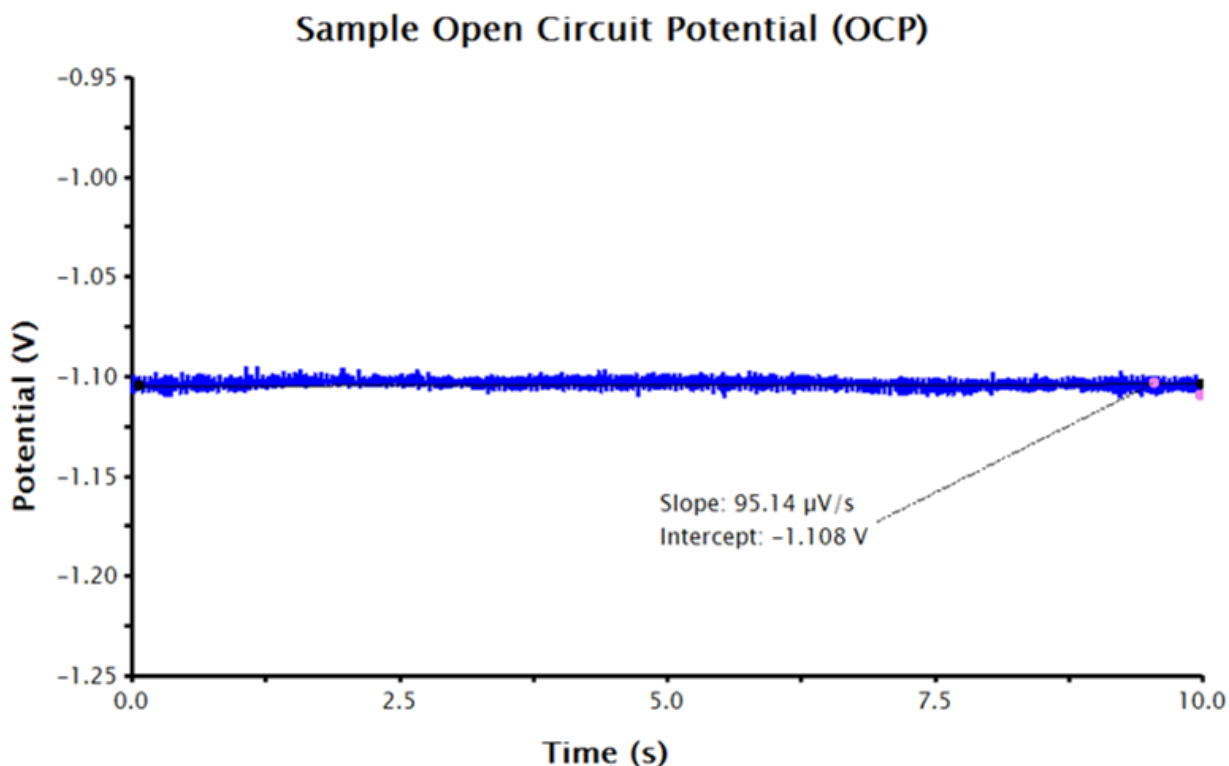

Figure 2. OCP Data in AfterMath with the Potential Axis Scaled and Fitted with a Best-Fit Line.
Since an OCP measurement is sensing very small changes to potential over time, the auto-scaled y-axis often displays an extremely small potential window, disproportionately emphasizing the noise in the displayed data. The y-axis can be adjusted to improve the appearance of the data (see: Figure 2). To adjust the scale of the y-axis:
4. The AfterMath tool reports the resultant slope and intercept of the best-fit line. The intercept value is the corrosion potential (E_{corr}) (see: Figure 2)